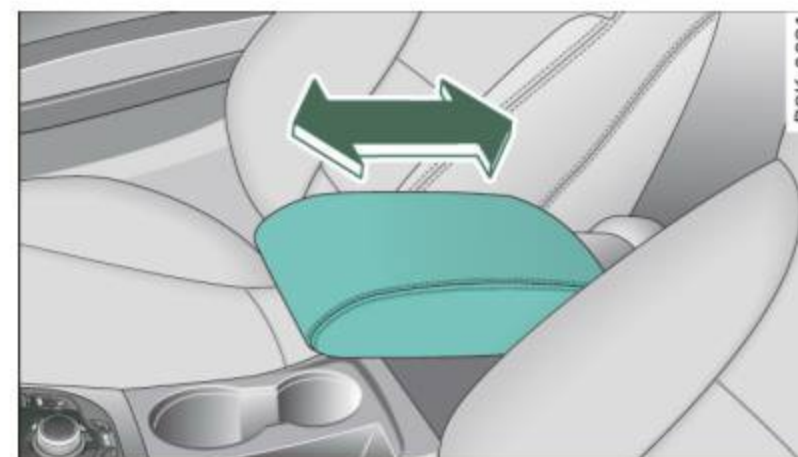

Fig. 84 Arm rest
- You can move the arm rest forward or back ⇒ *page 86*, fig. 84.